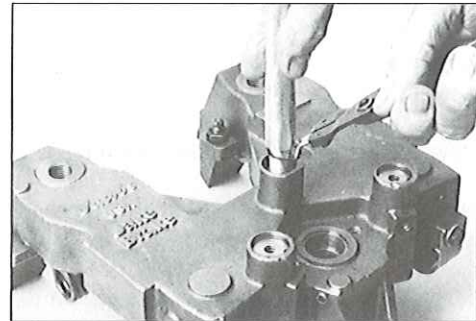

FIG. 43
1. Push down on the accumulator cover using the appropriate diameter rod and remove the retaining ring (see Fig. 43).